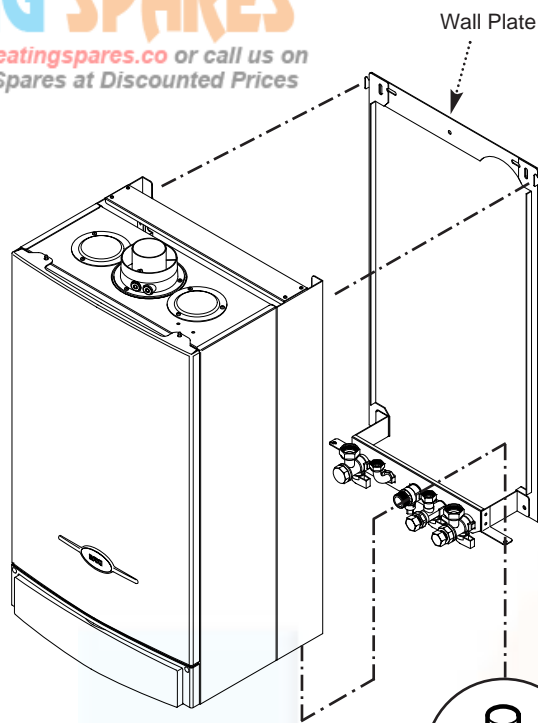

Fig. 18
2. Lift the boiler using the lower edges. Engage the slots at the top rear of the boiler on the wall plate (Fig. 18).
5. Secure the boiler side panels to the boiler wall plate flanges using the screws provided (Fig. 18).